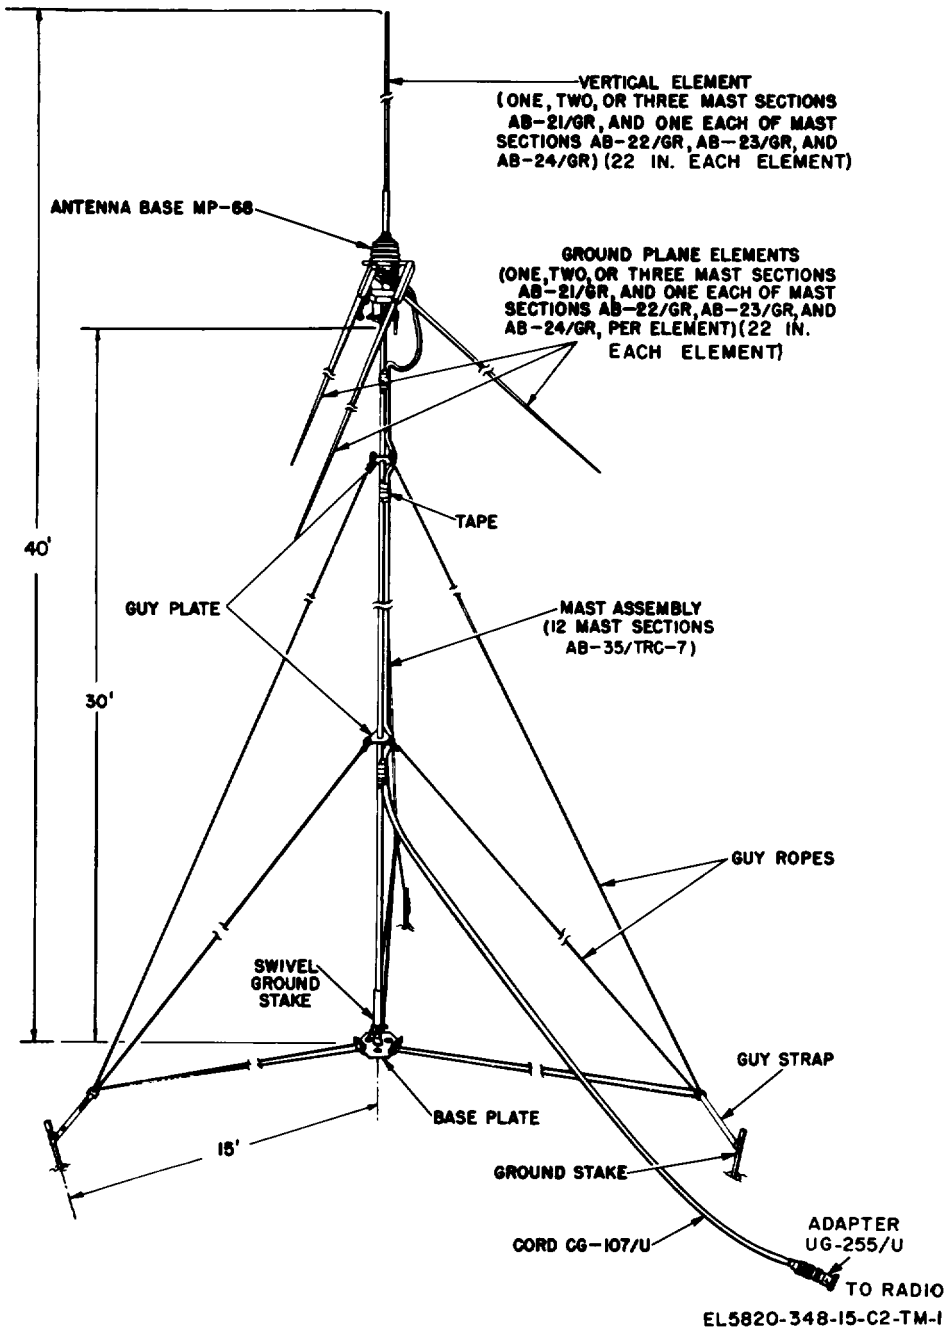

Figure 1-1. Antenna Equipment RC-292.
a. This manual describes Antenna Equipment RC-292 (fig. 1-1) and provides instructions for installation, operation, and maintenance. It includes instructions for operation under usual and unusual conditions, cleaning, and inspection of the equipment, and replacement of parts available to the repair technician.
a. Antenna Equipment RC-292 (fig. 1-1) is an elevated, wide-band, modified ground-plane antenna designed to increase the distance range of radio sets in 30 to 76 mc range (b below).
(1) Radio Sets AN/VRC-12, AN/VRC-43 through AN/VRC-49 (TM 11 5820-401-12).
(2) Radio Sets AN/VRC-53, AN/VRC-64, AN/GRC-125, and AN/GRC-160 (TM 11-5820-498-12).
(3) Radio Sets AN/PRC-25 (TM 11-5820-398-12) and AN/PRC-77 (TM 11-5820-667-12).